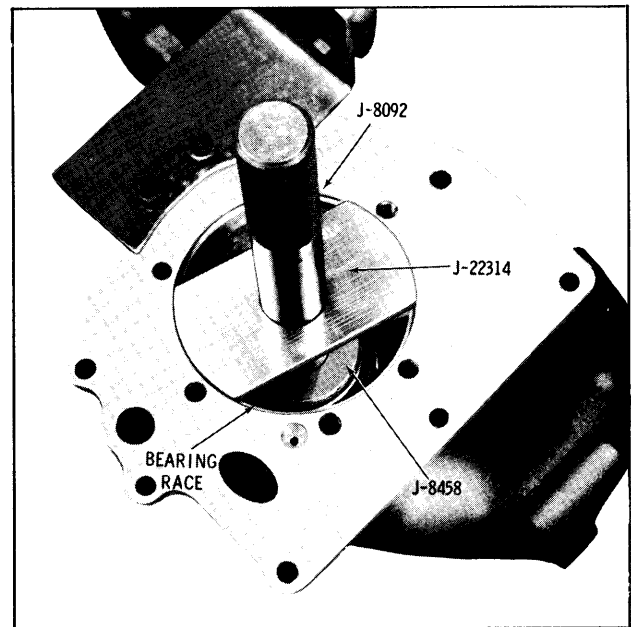

Fig. 3EC-38 Installing Pinion Front Bearing Outer Race
3. Position Tool J-21777-10 on front bearing. Install Tool J-21579 on final drive housing and retain with two bolts. Thread screw J-21777-13 into J-21579 until tip of screw engages Tool J-21777-10. Torque screw J-21777-13 to 20 in. lbs. to pre-load bearing. (Fig. 3EC-39)
4. Remove dial indicator post from Tool J-21777-11 and install Discs J-21777-11 and J-21777-12 as shown in Fig. 3EC-40. Reinstall dial indicator post.